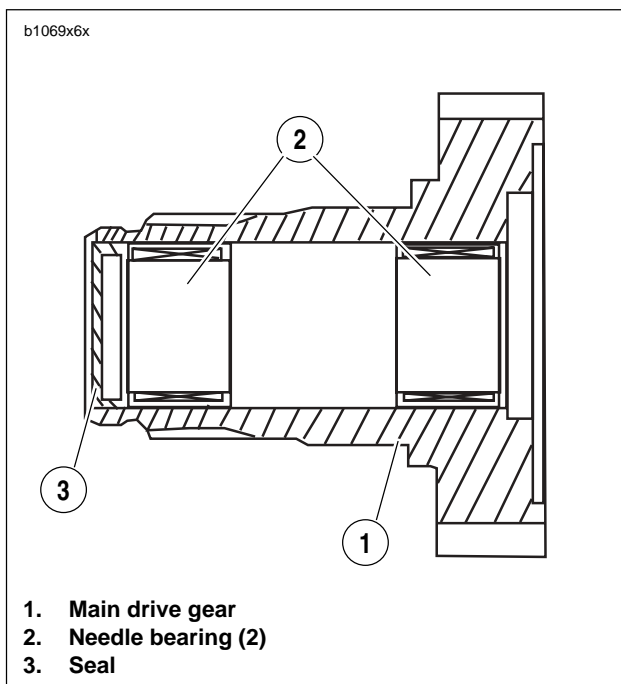

Figure 6-63. Main Drive Gear Assembly
3. See Figure 6-63. From inside case tap out seal at end of mainshaft 5th gear. Discard seal.